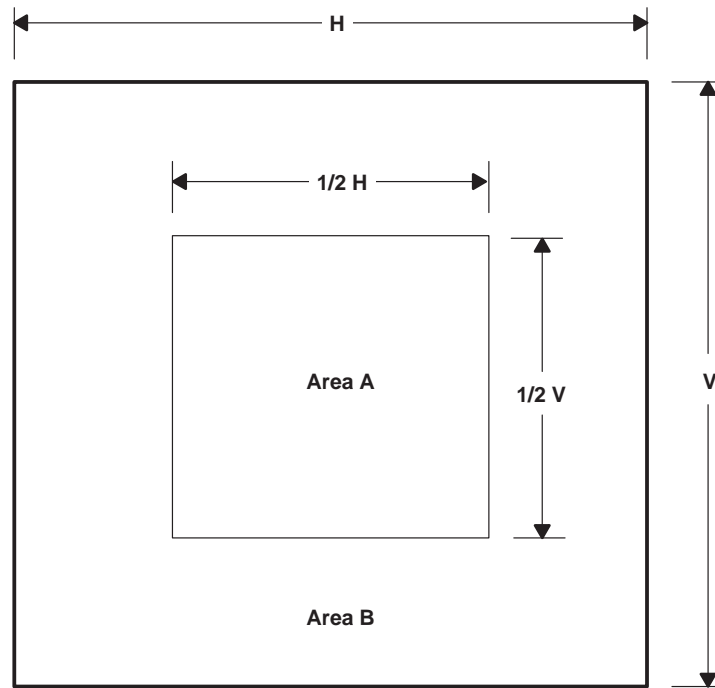

Figure 5. Area Location Map
- Location of the nonuniformity (see Figure 5)